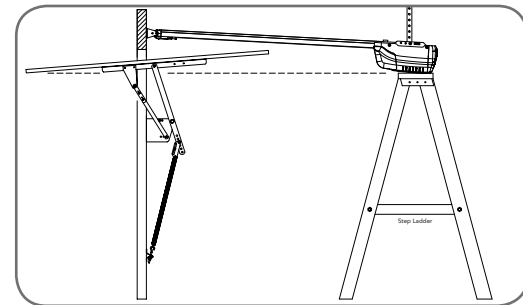

Fig. 17
- Rest the opener on the top edge of the door with end of the C-Rail against the wall (Fig. 17).
- Support the powerhead level with the lowest point of the open door (Fig. 17).